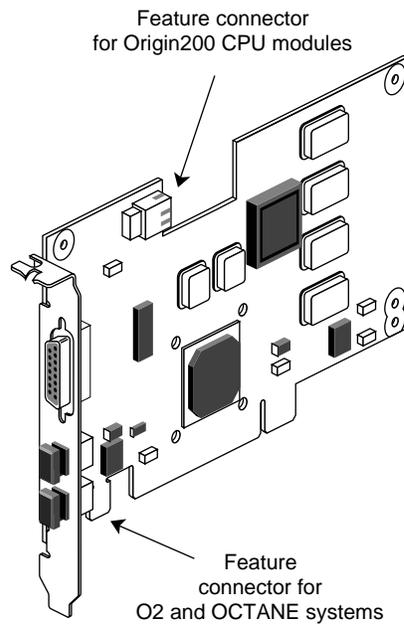
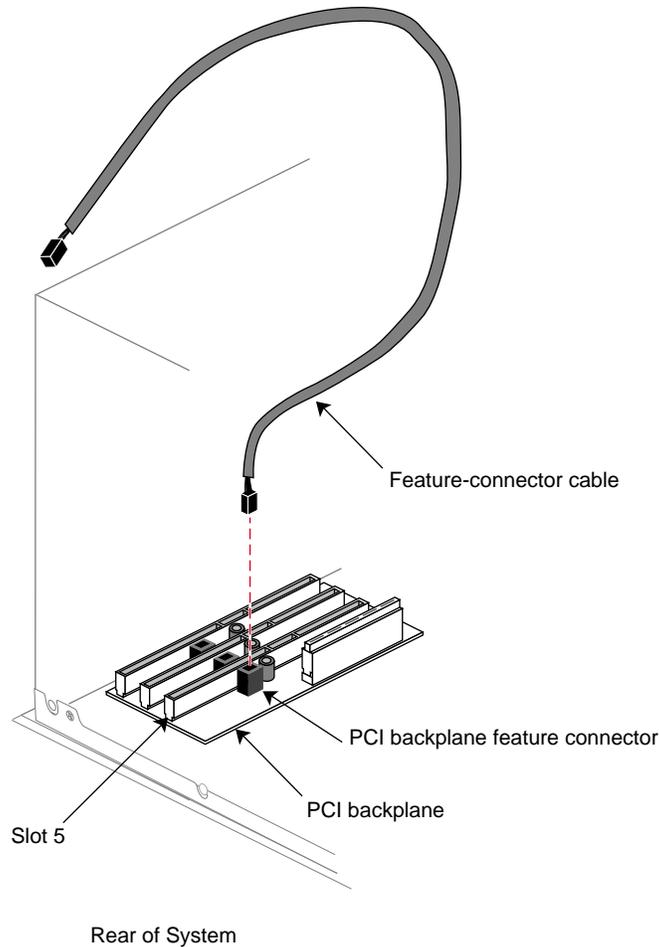
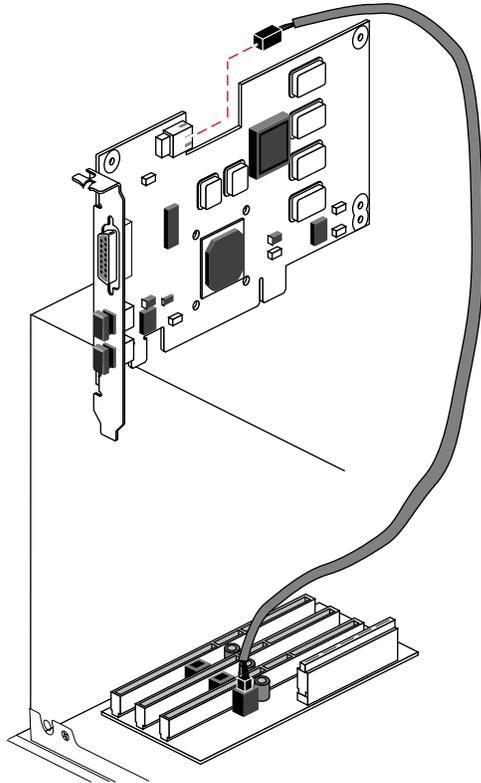

Figure 2-3 Example PCI Board With Feature Connectors
Figure 2-4 Attaching a Feature Connector Cable to the PCI Backplane
Figure 2-5 Attaching a Feature Connector Cable to the PCI Board
4. *For PCI boards with feature connectors only.* Some PCI boards from SGI provide an extra connector for additional signals used for multimedia applications. To install such a board in an Origin200 server, you must install a cable from a connector on the board to the feature connector on the PCI backplane. If you are not sure if the PCI board you are installing uses a feature connector, refer to Figure 2-3.
- Locate the feature-connector cable in the PCI board shipment. See Figure 2-4.
- Attach either end of the feature-connector cable to the connector next to the desired PCI slot on the Origin200 PCI backplane, as shown in Figure 2-4.
- Connect the other end of the cable to the Origin200 PCI board feature connector, as shown in Figure 2-5.
- If the board uses a feature connector cable, disconnect the cable from the board and the server. See Figure 2-3, Figure 2-4, and Figure 2-5.